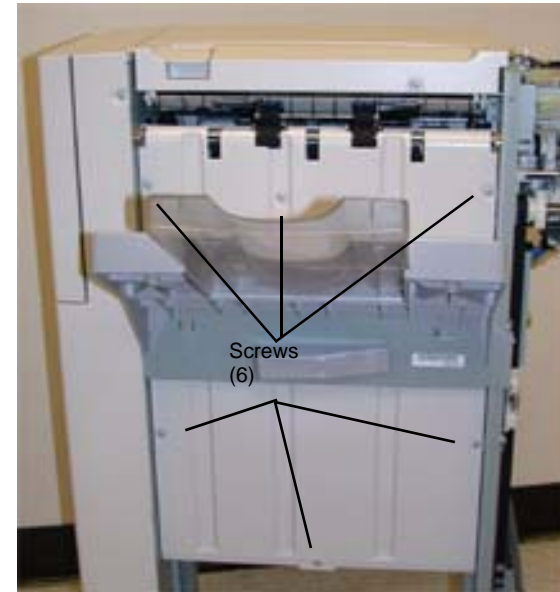

Figure 1 Removing the Stacker Upper Cover
5. Remove the Screws (6) (Figure 1).